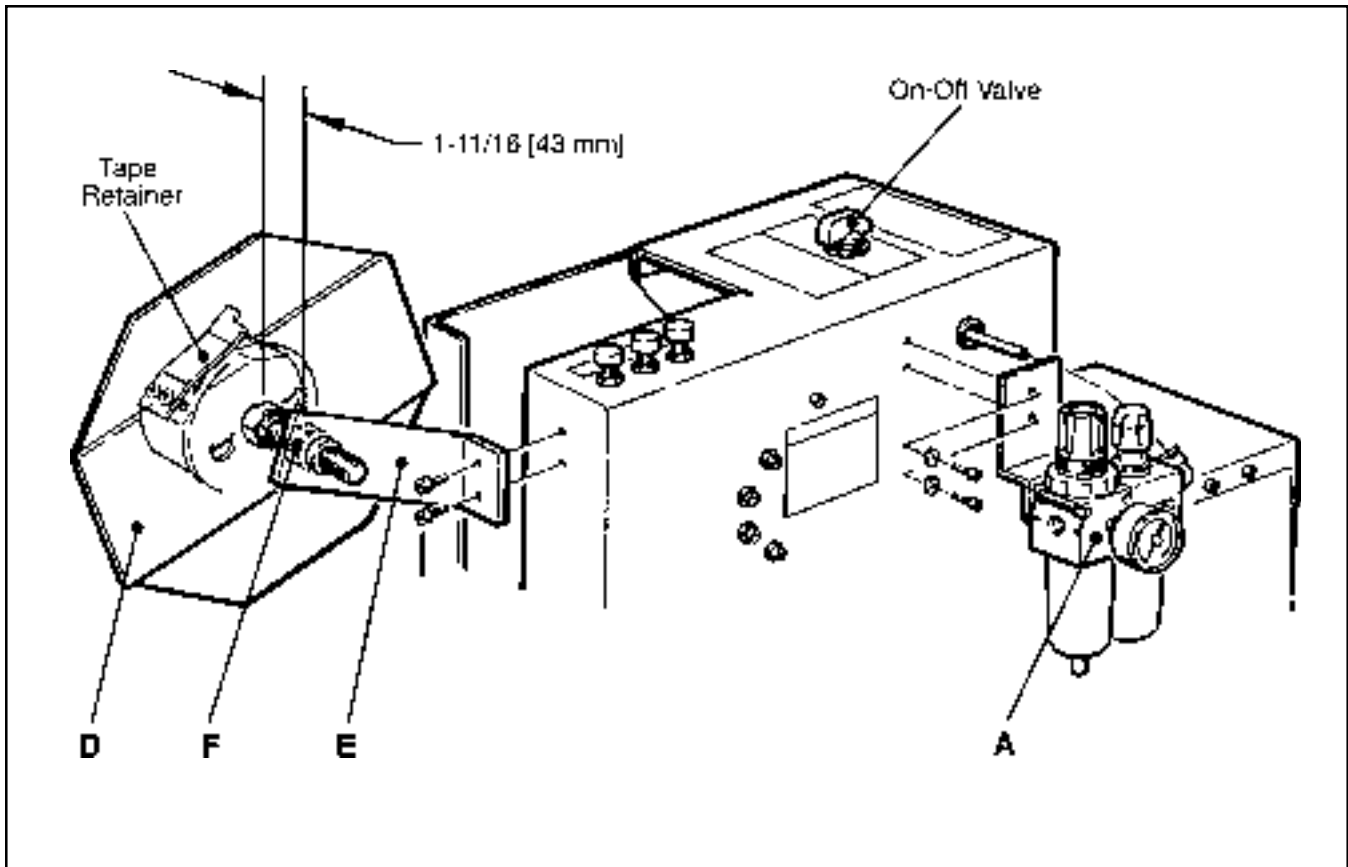

Figure 2-4 – Installation – Air Control – Left Side View
1. Refer to Figure 2-4 and locate the air control unit (A) in a vertical position for proper operation. Assemble and secure the two 8-32 x 1/2 lg. screws and flat washers.
Turn On/Off valve on S-857 to "Off" position. See Figure 2-4.
1. Attach the tape drum bracket (E) to the rear of the machine with two #10-24 x 1/2 lg soc hd capscrews as shown in Figure 2-4.
2. Assemble the tape drum/backup plate (D) to the bracket (E) and adjust tape drum/backup plate in or out to obtain the 1-11/16 inch [43 mm] clearance between backup plate and bracket as shown in Figure 2-4. Secure this setting with the 1/2-13 jam nut (F).
The tape drum is assembled at the factory for 3/8 inch [9 mm] or 1/2 inch [12 mm] wide tapes. For 5/8 inch [15 mm] tapes the retainers must be moved to the secondary position on the tape drum. This is done by removing the two screws and relocating the retainer, shown in Figure 2-4, then replacing and securing the screws.